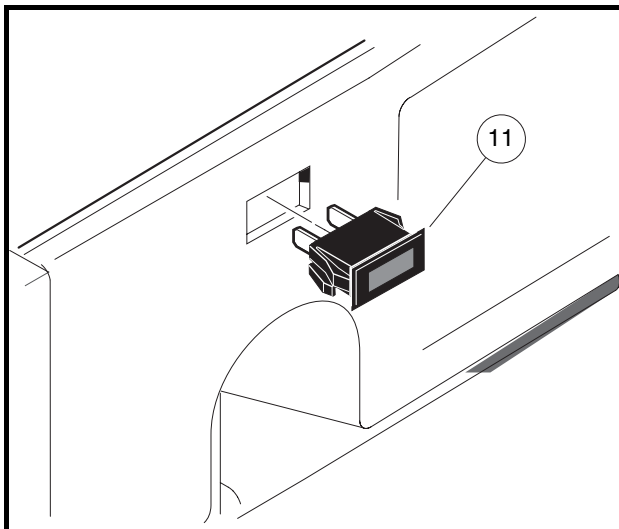

Figure 14-21 Low Oil Warning Light
3. Disconnect the wires from the low oil warning light (11) (**Figure 14-21, Page 14-20**). Do not allow wires to touch.
1. Push a new unit into hole in dash until plastic tabs engage dash (**Figure 14-21, Page 14-20**).